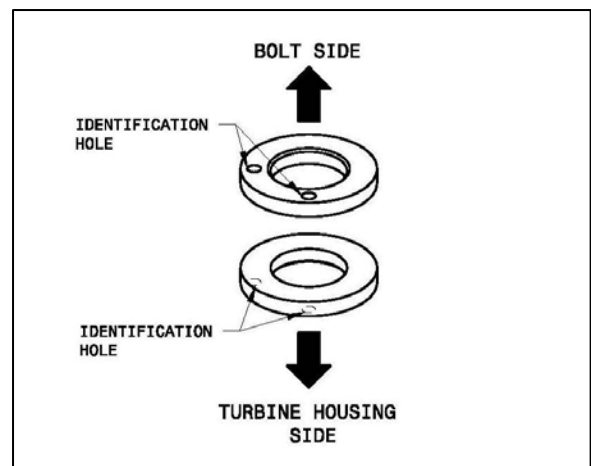

Fig. 38
41. Place the turbine inlet gasket on the turbine housing. Bring the turbocharger up to meet the manifold and use the 2 OE bolts and the 2 new stainless steel bolts supplied in kit. Apply an anti-seize compound to the bolt threads to protect against corrosion. **NOTE:** each bolt uses 2 washers. Place the washers back-to-back, with the identification holes on the outside facing *up* on the top washer and *down* on the bottom washer. See Fig. 38. Torque the bolts to 21-23 lb-ft (27-31 N-m) in an "X" pattern. Tighten the bolts another 60-70 degrees after reaching the torque spec, again using an "X" pattern (4 bolts, 14mm socket).